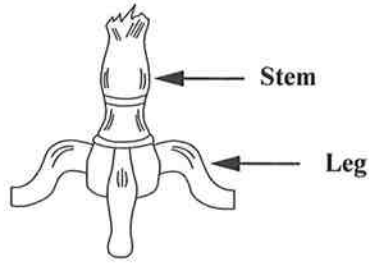

Figure 7. Stem of pedestal stand
8. Figure 7 shows part of a pedestal stem with three identical legs for a small kitchen table.